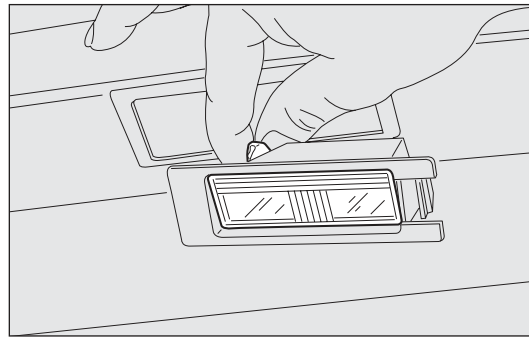

fig. 151
- ❑ change the bulb fig.151 by releasing it from the side contacts and making sure that the new bulb is correctly fastened between these contacts;